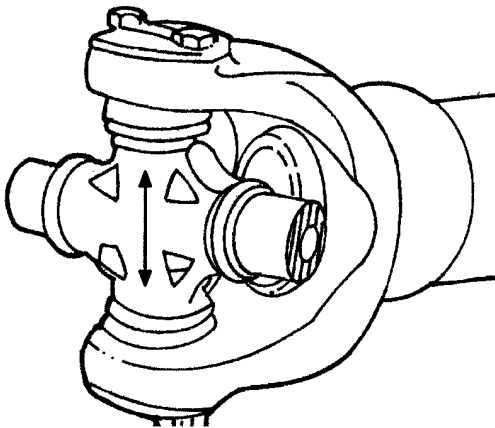

Figure 7 Check For Looseness Across Universal Joints
3. Check for looseness across universal joints; it should not exceed .006" (.152 mm) Figure 7).